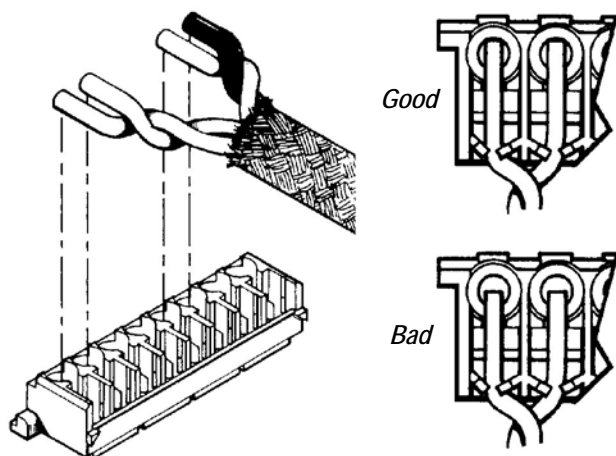

Figure 6
2. Insert conductor ends into appropriate slots of stuffer cap, following the color code shown beneath the slots. Make sure that the ends are flush with the back of the conductor slots. Maintain wire twist as far as possible on data cable. See Figure 6.